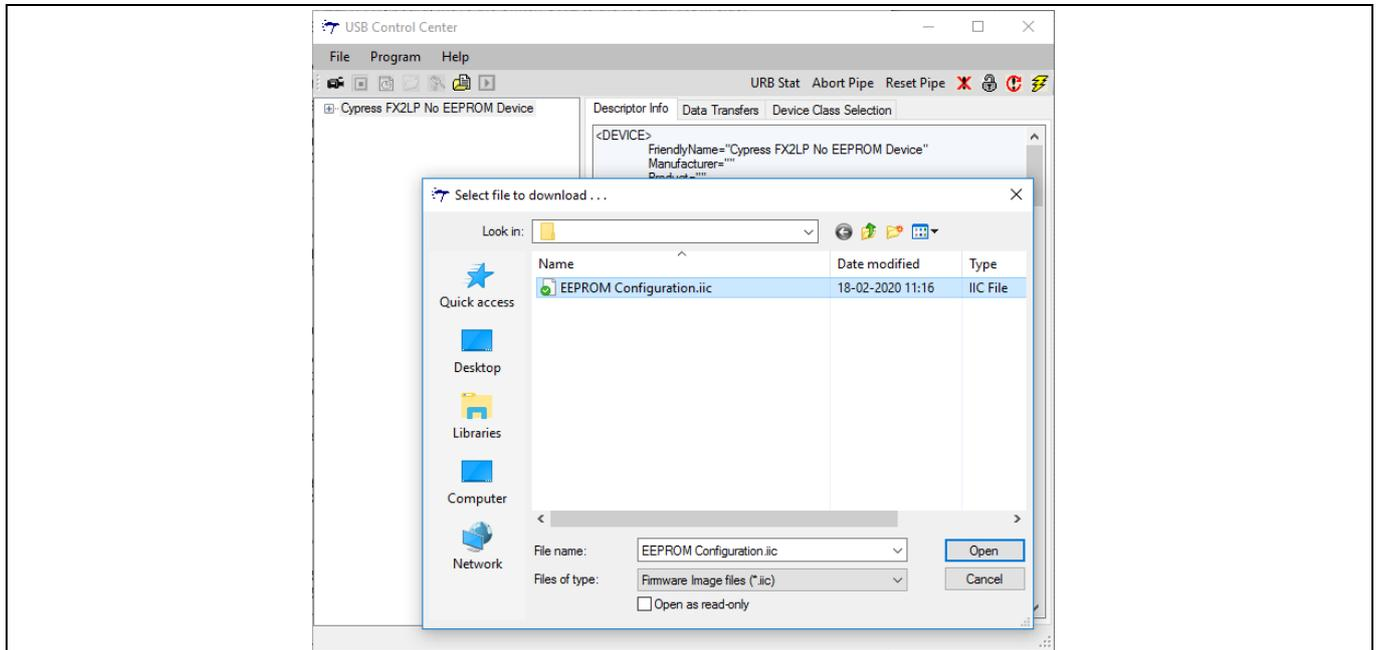

Figure 32 Selecting Firmware Image
- Choose the desired firmware code example (.iic file) from the location where the code examples were unzipped and saved (section 3.2). To download this code example to the external EEPROM, click **Open** (Figure 32).